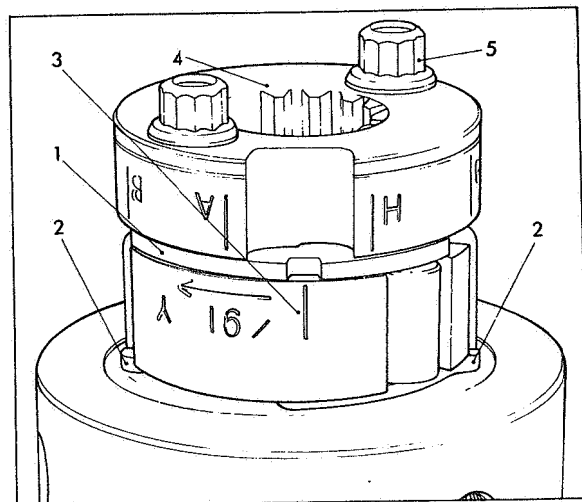

Fig 53 Top adjusting plate alignment
Fit the top adjusting plate (1) Fig 53 with its chamfered edges downwards and engage the legs of the plate in the guide slots of the bottom adjusting plate (2). Locate the two plates so that the fuel adjusting slot in the top plate coincides with the scribed line on the distributor rotor head (3) as shown. Assemble drive plate (4), machined recess downwards and align slot between letters 'A' and 'H' with the top adjusting plate slot as shown. Assemble drive plate screws (5) and finger tighten.